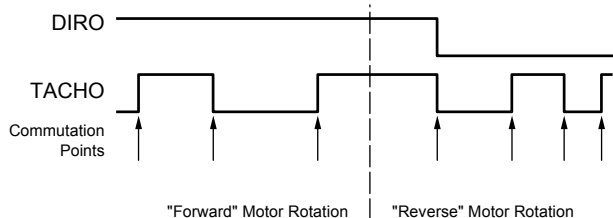

Figure 1. Direction Indication Outputs
**TACHO and DIRO** These outputs provide speed and direction information based on the HE inputs from the motor. As shown in figure 1, at each commutation point, the TACHO output changes state independent of motor direction. The DIRO output is updated at each commutation point to show the motor direction. When the motor is rotating in the “forward” or positive direction, DIRO will be high. When rotation is in the “reverse” or negative direction, DIRO will be low. The actual direction of rotation is determined from the sequence of the three Hall inputs,  $H_x$ . Forward is when the sequence follows table 2 top-to-bottom and reverse when the sequence follows table 2 bottom-to-top.